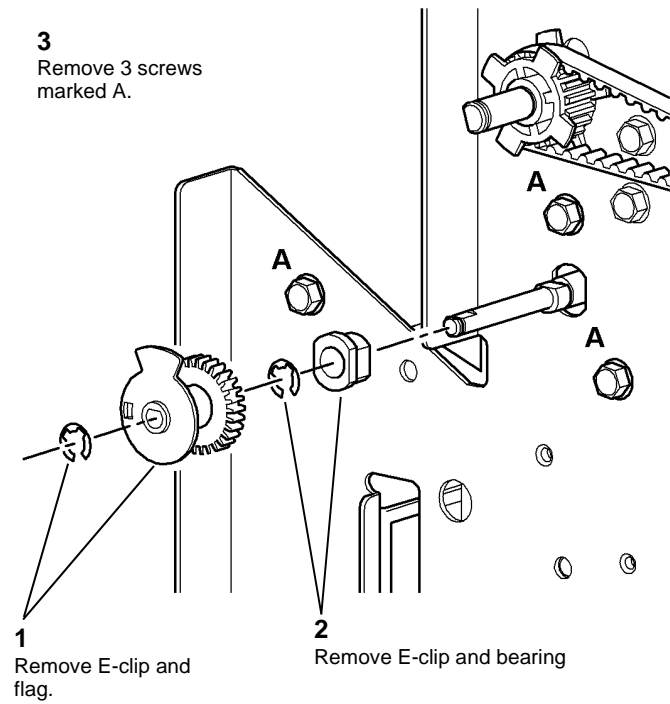

Figure 2 Rear preparation
3. Prepare the rear components, Figure 2.